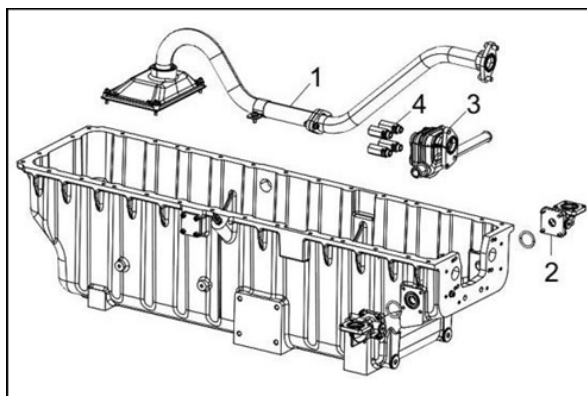

Figure 150.
3. Assemble the oil pan group if disassembled (Figure 150).